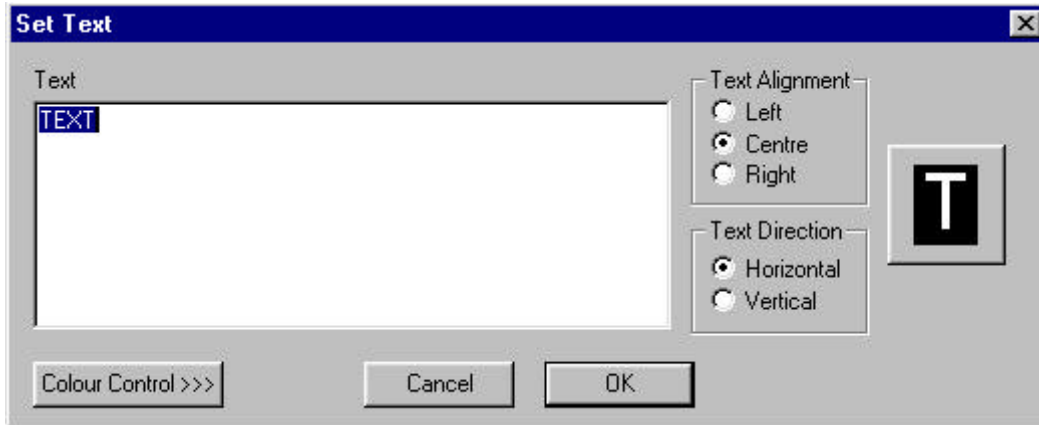

Figure 8.5 – Set Text
5. The Set Text window opens (Fig 8.5)